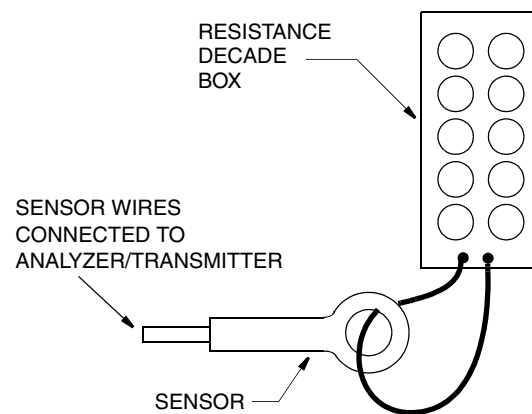

Figure 14. Sensor Magnetization Check
2. With the sensor connected to the analyzer/transmitter, loop a wire through the sensor bore as shown in Figure 14. Connect the ends of the wire to the decade box and turn on the analyzer/transmitter (if not already on).